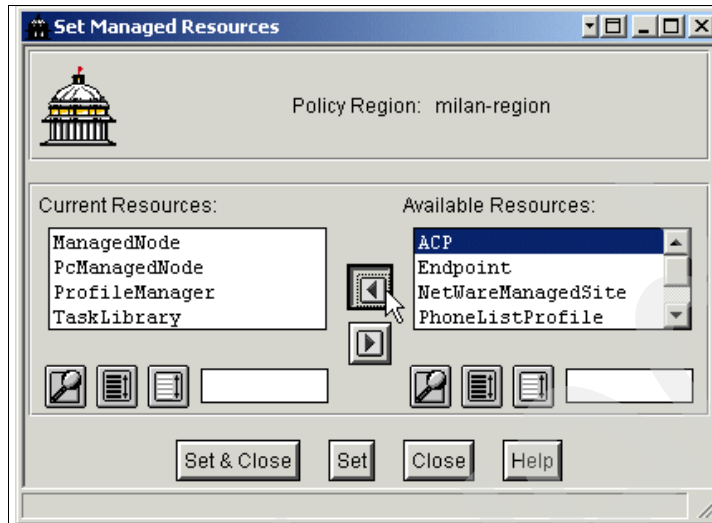

Figure 8-22 Making ACP resource a managed resource for a policy region
6. Select **ACP** from the Available Resources list on the right-hand side and select the left-pointing arrow button to move it into the Current Resources list on the left-hand side as shown in Figure 8-22 on page 357.